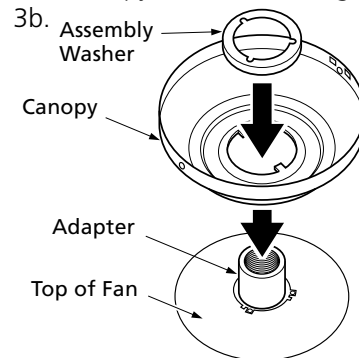

Figure 3b - Placing Canopy and Washer Over Adapter
1. Fit the canopy over the motor hanger adapter as shown in Figure 3b. Make sure the canopy fits snugly against the fan assembly with no space between the pieces.
2. You will find a large assembly washer included with the fan. Place the washer over the adapter and canopy as shown in Figure 3b.